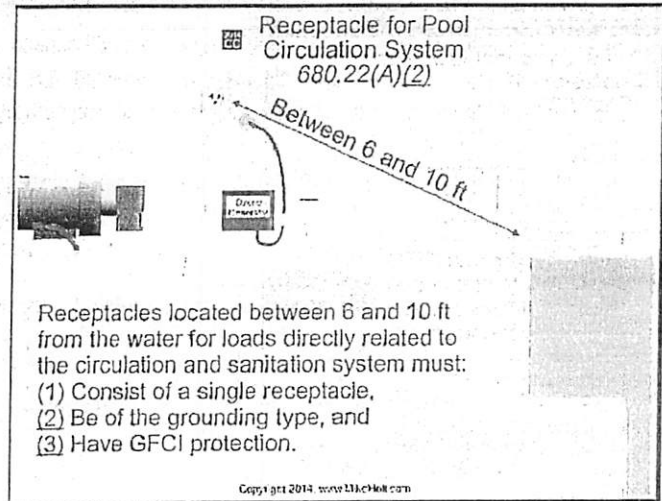

Figure 680-23
(2) Circulation System. Receptacles for permanently installed pool, outdoor spa, and outdoor hot tub motors, or other loads directly related to the circulation system must be located not less than 10 ft from the inside walls of a permanently installed pool, outdoor spa, or outdoor hot tub, or not less than 6 ft from the inside walls of a permanently installed pool, outdoor spa, or outdoor hot tub if they meet all of the following conditions: Figure 680-23